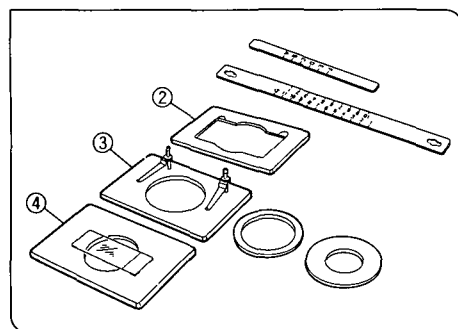

Fig. 60
- ⊙ To secure other vessels than microtiter plates, various optional holders are available. A Terasaki plate holder ② is available for holding Terasaki plates (72-well, 60-well). When using this, it is necessary to replace the stage scales with those provided with the plate holder. Petri dish holder ③ is available for 35 mm, 54 mm, and 60 mm diameter Petri dishes, and a slide glass holder ④ is available for holding slide glass. (Fig. 60)